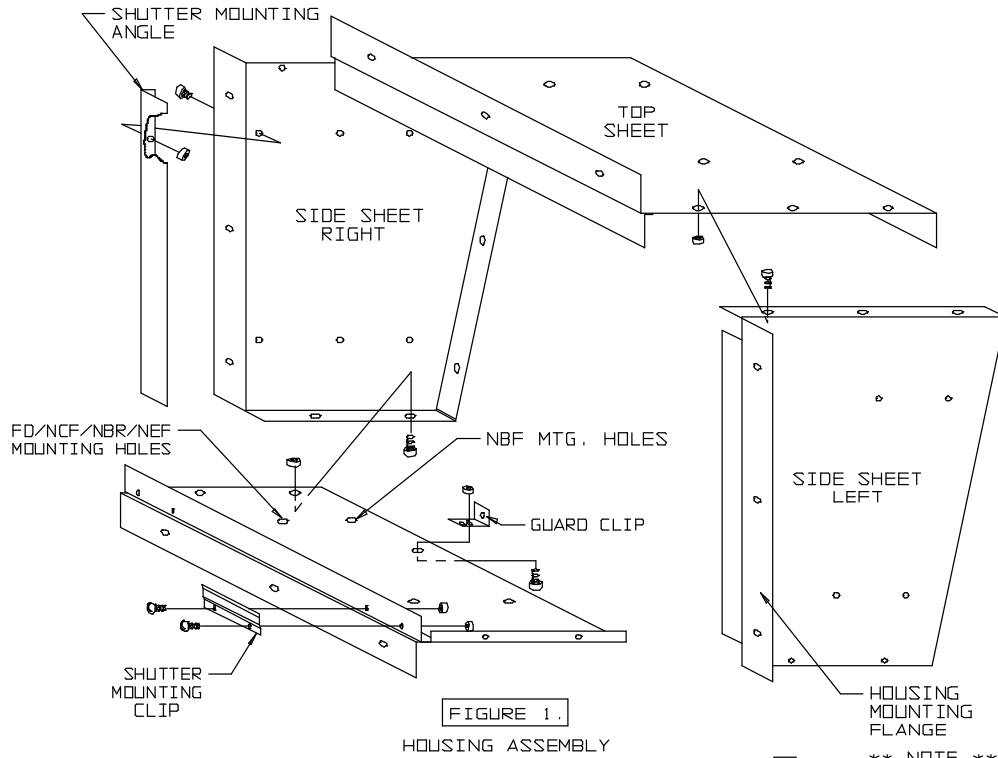
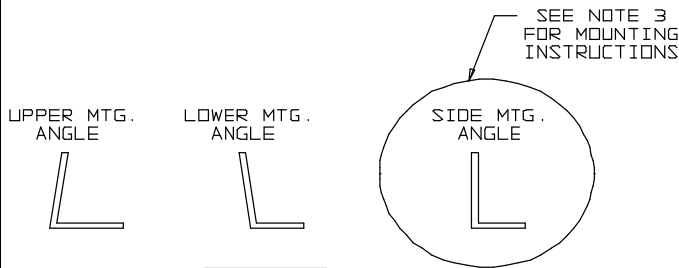
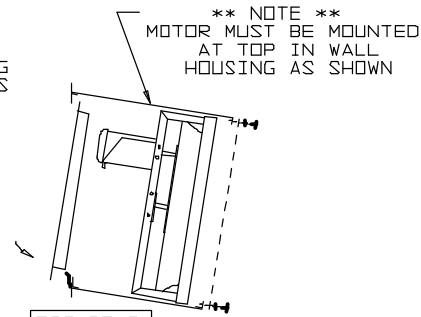

FIGURE 1.
FIGURE 2.
FIGURE 3.
- 2) SEE FORM 220-40 INCLUDED WITH THE FAN FOR ASSEMBLY AND MAINTENANCE INSTRUCTIONS OF FAN AND MOTOR. FOR THE PROPER MOUNTING OF THE MOTOR BRACKET TO THE FAN FRAME, DISREGARD FIGURE 1 ON FORM 220-40 AND INSTALL THE MOTOR BRACKET AS SHOWN IN FIGURE 3 OF THESE INSTRUCTIONS. MAKE SURE THE MOTOR IS MOUNTED ON TOP OF THE MOTOR BRACKET.
- 3) THE SHUTTER MOUNTING ANGLES MUST BE ATTACHED TO THE WALL HOUSING SHEETS. THERE ARE 4 MOUNTING ANGLES OF WHICH TWO ARE THE SAME. IDENTIFY THE MOUNTING ANGLES PER FIGURE 2. THERE ARE 4 WALL HOUSING SHEETS -- THE TWO THAT ARE THE SAME SIZE ARE THE SIDE SHEETS. THE SMALLER RECTANGULAR SHEET IS THE BOTTOM. THE LARGER RECTANGULAR SHEET IS THE TOP. USING 1/4" NUTS AND BOLTS, FASTEN THE SHUTTER MOUNTING ANGLES TO THEIR RESPECTIVE HOUSING SHEETS SO THAT THE TURNED IN FLANGE OF THE ANGLE IS FLUSH WITH THE HOUSING MOUNTING FLANGE. SEE FIGURE 1.
- 4) ASSEMBLE THE BOTTOM AND ONE SIDE SHEET TOGETHER USING 1/4" NUTS AND BOLTS AS SHOWN IN FIGURE 1. THEN PLACE THE FAN ON THE BOTTOM HOUSING SHEET ALIGNING THE HOLES IN THE FAN FLANGES WITH THE FAN MOUNTING HOLES IN THE WALL HOUSING SHEETS. **CAUTION:** FOR PROPER SHUTTER CLEARANCE, THE FAN MUST BE MOUNTED IN THE HOUSING WITH THE MOTOR AT THE TOP OF THE HOUSING AS SHOWN IN FIGURE 3. **NOTE:** THERE ARE FIVE TYPES OF FANS THAT CAN BE USED IN THIS WALL HOUSING. THEY ARE THE TYPE NBF, NBR, NCF, NEF OR FD FANS. FOR THE TYPE NBF FAN, MOUNT THE FAN IN THE HOLES CLOSEST TO THE FRONT OF THE HOUSING. FOR THE TYPE NCF, NBR, NEF OR FD FAN, MOUNT THE FAN IN THE HOLES CLOSEST TO THE REAR OF THE HOUSING. SEE FIGURE 1. NOW, ASSEMBLE THE REMAINING HOUSING SHEETS AROUND THE FAN USING 1/4" NUTS AND BOLTS FOR THE HOUSING ASSEMBLY AND FOR MOUNTING THE FAN PANEL TO THE HOUSING. **NOTE: WHEN PLACING A NBF FAN IN THE HOUSING, YOU WILL USE A FLATWASHER ON BOTH THE INSIDE OF THE FAN PANEL FLANGE AND THE OUTSIDE OF THE HOUSING SHEET. WHEN PLACING A NBR, NCF, NEF OR FD FAN IN THE HOUSING, YOU WILL USE A FLATWASHER ON THE OUTSIDE OF THE HOUSING SHEET.** WHEN ASSEMBLING THE WALL HOUSING, DO NOT TIGHTEN ANY HARDWARE UNTIL ALL BOLTS ARE IN PLACE OR IT MAY BE DIFFICULT TO ALIGN SOME HOLES.
- 5) ATTACH THE SHUTTER MOUNTING CLIPS TO THE BOTTOM SHUTTER MOUNTING ANGLE USING #10 NUTS AND ROUND HEAD BOLTS. SEE FIGURE 1. WHEN MOUNTING THE SHUTTER TO THE WALL HOUSING, SLIDE THE TOP SHUTTER FLANGE UNDER THE TOP SHUTTER MOUNTING ANGLE AND THEN SLIDE THE SHUTTER DOWN UNTIL THE BOTTOM SHUTTER FLANGE RESTS BETWEEN THE SHUTTER MOUNTING CLIP AND THE BOTTOM SHUTTER MOUNTING ANGLE. SEE FIGURE 3.
- 6) IT WILL BE NECESSARY TO BOLT THE GUARD CLIPS TO THE BOTTOM WALL HOUSING SHEET. ATTACH THE CLIPS USING 1/4" NUT AND BOLT AS SHOWN IN FIGURE 1. THE GUARD CAN THEN BE MOUNTED TO THE FRONT OF THE WALL HOUSING USING 1/4" SELF-TAPPING SCREWS AND LARGE FLAT WASHERS. SELF-TAP THROUGH THE GUARD INTO THE CLIPS ON THE BOTTOM SHEET, AND INTO THE PRE-PUNCHED HOLES ON THE FLANGES ON THE TOP AND SIDE SHEETS. SEE FIGURE 3.